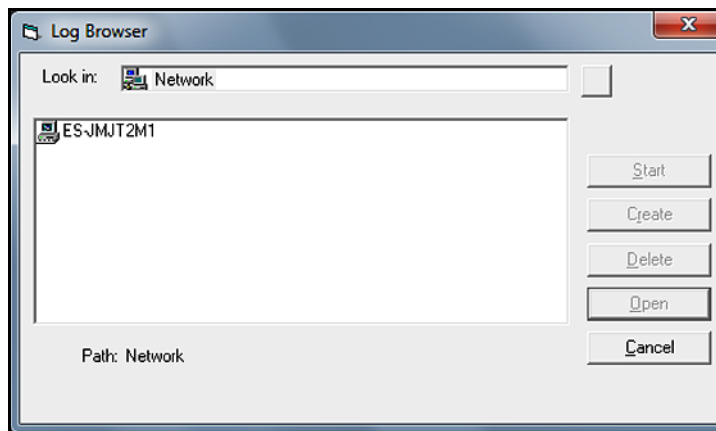

Figure 79: Computer Selection
- Click "Log Browser" option to open the dialog box shown in *Figure 79* below.